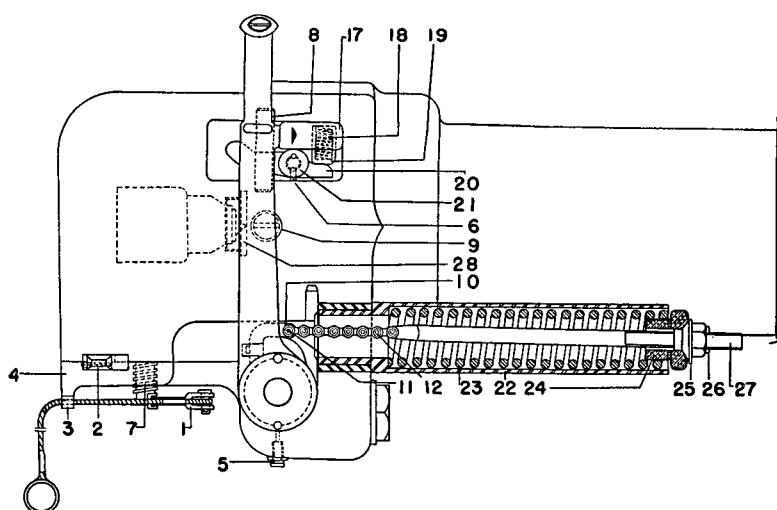
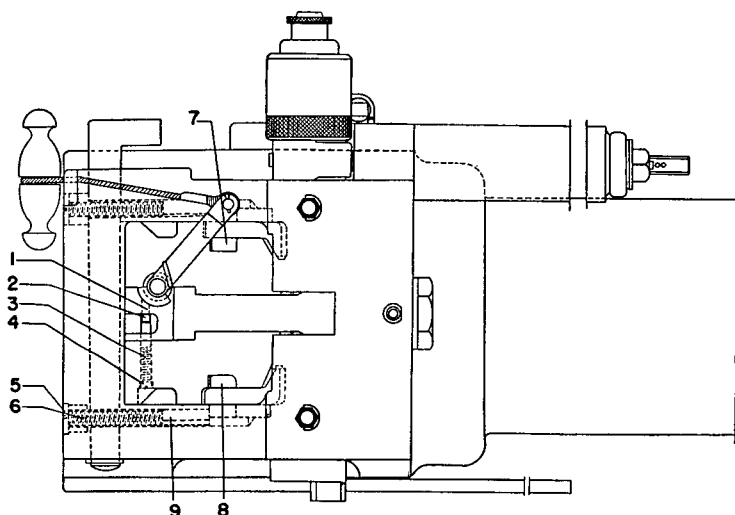
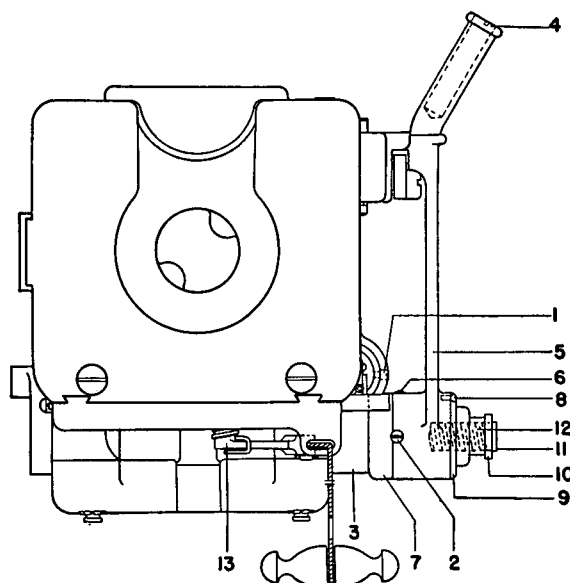
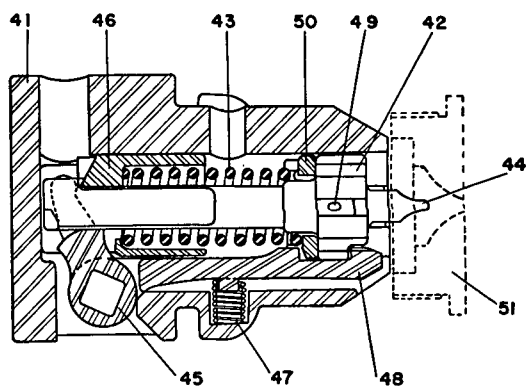

FIGURE 6.—Breech mechanism, 3-inch antiaircraft gun, M3, right side elevation.
FIGURE 7.—Breech mechanism, 3-inch antiaircraft gun, M3, bottom elevation.
FIGURE 8.—Breech mechanism, 3-inch antiaircraft gun, M3, rear elevation.
FIGURE 9.—Firing mechanism, 3-inch antiaircraft gun, M3, horizontal cross section.
■ 40. TO REMOVE AND DISASSEMBLE BREECHBLOCK.—a. Remove one of the cap screws from the breech lamp bracket, loosen the other cap crew, and swing the lamp assembly clear of the breech recess. Unscrew plugs (5) (fig. 7) and remove extractor springs and plungers (6) and (9). Screw an eyebolt in the top of the breechblock for use in lifting the block. Open the breech and insert a pin or punch in the opening in the spring piston rod (27) (fig. 6) at the rear face of the closing spring cylinder (22), thereby releasing the tension of the spring on the breechblock. (See note
below.) Screw in the clutch (11) (fig. 8), and close the breech. Remove the cotter pin which retains the chain terminal and unhook the chain from the operating shaft.
b. Draw the trigger shaft detent (1) (fig. 7) to the left by the handle (2) and draw out the trigger shaft (13) (fig. 8). Remove the firing case (41) (fig. 9) by turning until the locating lugs are disengaged. Remove the split pin from the lock plate key (2) (fig. 6) and drive out the key. Remove the lock plate (4).
c. Rotate the operating shaft (3) (fig. 8) as in opening the breech. When the arm of the operating shaft turns out of the breechblock, draw the shaft to the rear out of the breech ring. It may be necessary to raise or lower the breechblock slightly while removing the shaft. Lower the breechblock sufficiently to remove the extractors.
d. Raise and remove the breechblock from the breech ring. Remove the detent spring (3) (fig. 7) by first removing screw (4) holding the spring. The detent (1) may then be removed.
e. The bushing (28) (fig. 6), which is screwed very tightly in the front face of the breechblock, is assembled during manufacture and will not be removed by the using service personnel.
NOTE.—If it is desired to disassemble the closing spring cylinder mechanism, do not insert pin in the spring piston rod. With breech closed, unscrew piston rod nut (25) (fig. 6) and withdraw spring piston (24). The closing spring may then be removed from the front and the spring piston rod from the rear.
■ 41. TO DISASSEMBLE FIRING CASE.—a. With the firing case assembly withdrawn from the breechblock as explained in paragraph 40, insert a screw driver in small hole in the firing case and push the trigger fork (45) (fig. 9) from the case.
b. Remove the firing pin holder assembly (42) by pressing the sear (48) against the spring (47) with a finger at the front of the case, and by pushing the entire firing pin holder assembly from the rear with the fingers of the other hand.
c. Remove the sear (48) and the sear spring (47).
■ 42. TO DISASSEMBLE FIRING PIN HOLDER ASSEMBLY.—a. Separate the holder (42) (fig. 9) from the sleeve (46) by pressing inward on the end of the firing pin holder, thus dis-
c. Remove spring stop (50) and the cotter pin (49) from the holder (42), and unscrew the firing pin (44) from the firing pin holder (42).
■ 43. To DISASSEMBLE OPERATING HANDLE AND OPERATING SHAFT.—Unscrew the clutch lock (10) (fig. 8) to disengage the clutch from the shaft, and remove retaining ring lock screw (2). Unscrew the retaining ring (7) from the operating shaft (3) and remove the operating handle assembly. Unscrew retaining ring from the operating handle hub. Remove the clutch lock bearing lock screw (8) and unscrew the bearing from the handle hub. The method of disassembling the remaining parts needs no explanation.
■ 44. To ASSEMBLE FIRING PIN HOLDER ASSEMBLY.—a. Insert the firing pin (44) (fig. 9) into the firing pin holder (42) until it fits tightly against the shoulder. Insert the cotter pin (49) through the holder and spread the ends to clear the firing case bore. Assemble spring stop (50) and firing spring (43) on the firing pin holder (42). Place the firing pin holder sleeve (46) over the firing spring and firing pin holder, and force it against the spring until the beveled surface on the inner part of the sleeve and the irregularly formed end of the firing pin holder hook together, retaining the parts.
■ 45. To ASSEMBLE FIRING CASE.—a. Turn the spring stop (50) (fig. 9) on the firing pin holder (42) until the flat edges of the fork are in a plane parallel to that of the flat surface
b. Insert the sear spring (47) into its seat inside the firing case (41). Insert the sear (48) into the case, placing the stud on the bottom of the sear into the sear spring (47). With a finger hold the rear end of the sear (48) up, and with the other hand insert the firing pin holder assembly about halfway into the case. Then press the rear end of the sear down and push the firing pin holder assembly fully into the case.
c. Insert the trigger fork (45) into the opening in the side of the case, with the rounded projections on the fork ends toward the front of the case, in which position the ends rest against the rear face of the firing pin holder sleeve (46). Push the trigger fork in as far as it will go, slapping it with the palm of the hand if necessary.
■ 46. TO ASSEMBLE BREECHBLOCK.—a. Assemble the trigger shaft detent (1) (fig. 7) into the detent hole in the lower left-hand side of the block. As the detent passes into the slot in the bottom of the block, slip the detent handle (2) over the small diameter of the detent up to the shoulder. Place the detent spring (3) in the hole and insert screw (4).
■ 47. TO ASSEMBLE OPERATING HANDLE.—a. The grip position is made hollow to reduce its weight, the hole in the end being closed by screwing in the handle plug (4) (fig. 8). The oil cup (6) is pressed into the hub of the handle. These parts are assembled during manufacture and are not intended to be removed.
b. Screw the clutch lock (10) (fig. 8) through the clutch spring (12) into the clutch (11), and insert them into the handle, locating the key and keyway together. Now screw the bearing fully into the handle. Locate the nearest hole
■ 48. TO ASSEMBLE OPERATING SHAFT.—Slide the operating handle assembly on the operating shaft, pushing it on until the projections on the shaft pass through the openings in the retaining ring (7). Retain the handle on the shaft by screwing the retaining ring fully against the shoulder, and insert the retaining ring lock screw (2). The lock screw should seat in the depressions in the ring and handle. Screw the clutch lock fully to the right to engage the clutch with the shaft.
*b.* Place the extractors (7) and (8) (fig. 7) in position in the breech recess, and press upward from the bottom so that they lie flat against the face of the breech.
*f.* With the breech open, insert the extractor plungers (9) (fig. 7) in the holes in the breech face, small end of the plunger to the rear, followed by the extractor plunger springs. Screw plugs (5) in position.
*g.* Attach the chain terminal to the operating shaft. (In case the closing spring assembly has been disassembled, place the closing springs (23) (fig. 6) in the closing spring cylinder (22). Insert the spring piston rod (27) through the spring and spring cylinder from the rear end and attach the chain terminal to the operating shaft. Place the spring piston (24) on the rod and screw the piston rod nut (25) on the rod until the end protrudes through the nut about three-fourths of an inch.)
*h.* Close the breech and insert the trigger shaft (1) (fig. 6), first placing the spring (7) in position on the trigger shaft. Press the trigger shaft detent handle to the left to allow the trigger shaft to enter, and then allow the detent (1) (fig. 7) to move back into the annular groove in the shaft.
■ 50. **TO ASSEMBLE LATCH PLATE** (fig. 6).—Place the latch spring (18) into the spring cup (19), and hold the parts in position in latch plate (17). At the same time assemble the latch (20) in the plate by forcing the boss on the latch into its seat in the latch plate, holding it in position until the latch bolt (21) can be entered several threads. Screw the latch bolt (21) home and insert the latch bolt set screw (6). The disassembly of this mechanism is the reverse of the above procedure.